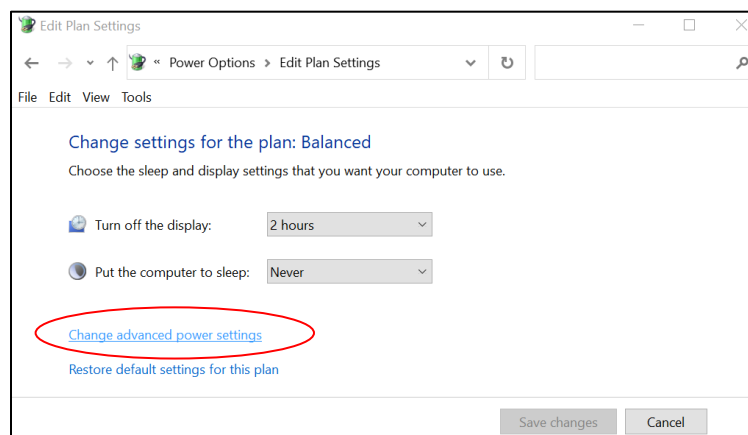

Figure 13: Power Plan Window
4. Select **Change advanced power settings**. Refer to Figure 13.